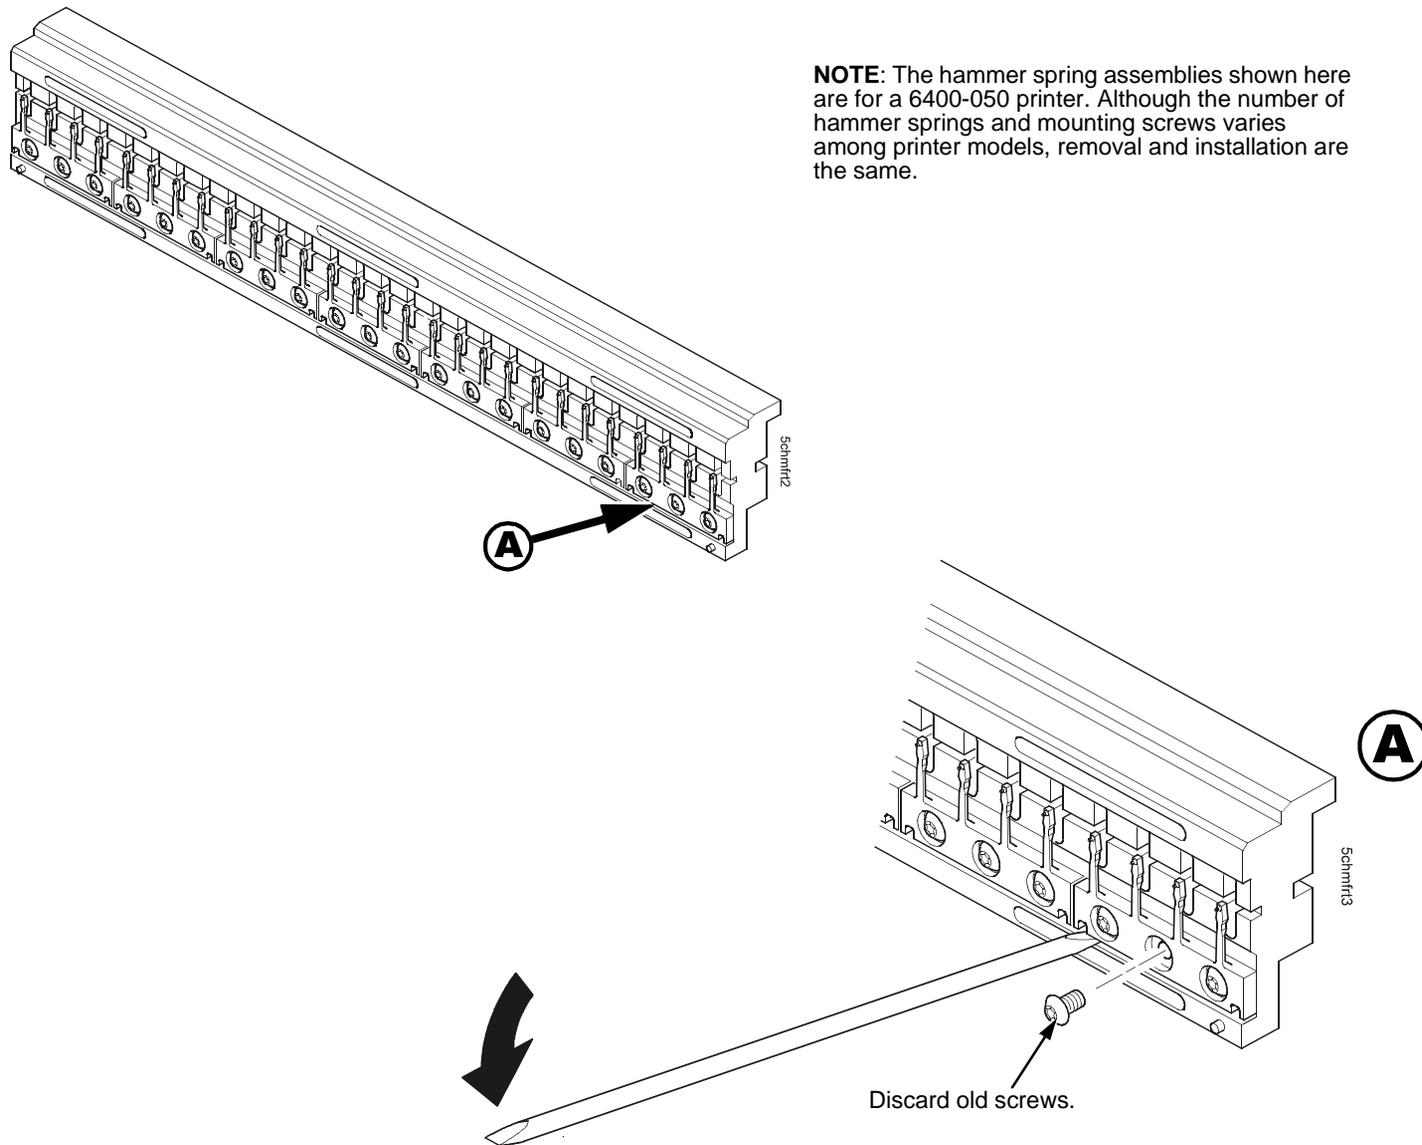

Figure 18. Removing a Hammer Spring Assembly from a Single Hammer Bank
5. Remove the mounting screws from the old hammer spring assembly. (See Figure 18, page 387.)
6. Handling the hammer spring assembly by the mounting base only, gently pry the old hammer spring assembly off its mounting pins. (See Figure 18, page 387.)